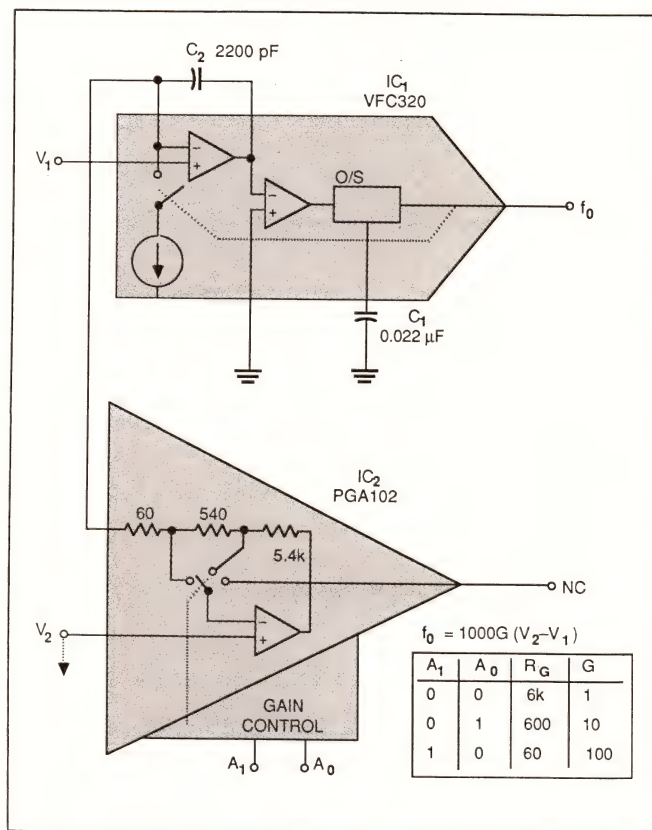

Fig 7—To provide digitally controlled gain to a V/F converter, replace the V/F converter's gain-setting resistor with a programmable gain amplifier.
For lower-speed data-acquisition systems using a V/F converter for A/D conversion, you can perform gain ranging at the V/F converter instead of at the S/H amplifier. Charge-balancing V/F converters let you connect the PGA102 in a manner that produces differential inputs. For example, the VFC320 V/F converter lets you simply replace its gain-setting resistor with a PGA102 (Fig 7).
The circuit in Fig 7 creates a virtual ground at the PGA's inverting input by grounding the V_2 terminal. The PGA then switches the virtual ground to various taps on its feedback network, thus supplying the V/F converter with gain-setting resistors of 60 Ω , 600 Ω , or 6 k Ω . With these resistor values and the other component values shown, the V/F converter can offer a 4-kHz full-scale-frequency response for inputs of 40 mV, 400 mV, and 4V.
Although the circuit in Fig 7 is simple, it has several limitations. First, the V/F converter's gain-setting resistors are confined to the values available from the PGA's feedback network. Further, those resistors have a 20% tolerance that appears directly as gain error, and you must adjust a capacitor value (C_1) to compensate for this error. What's more, the integrator amplifier's gain-bandwidth product at higher gain levels limits high-frequency operation. The integrator must produce a sharp triangle wave to avoid timing errors, but with increased integrator gain, less loop gain is available to preserve the triangle wave's integrity. As a result, the maximum full-scale frequency is 10 kHz.
You can overcome the limitations of Fig 7's circuit by adding an op amp (IC_1 in Fig 8). The op amp buffers the
Fig 8—By adding op amp IC₁ to the circuit in Fig 7, you create an instrumentation-amplifier input without affecting either the circuit's frequency range or its digital-gain-control capabilities.
Like the circuit in Fig 7, this circuit has high-impedance differential inputs. With its various gains, the PGA presents a prescaled signal to the V/F converter's gain-setting resistor (R); the common-mode signal characteristics remain the same as in Fig 7. The circuit's nonlinearity is 0.015%, and you can trim its input offset error to 0.5 mV.